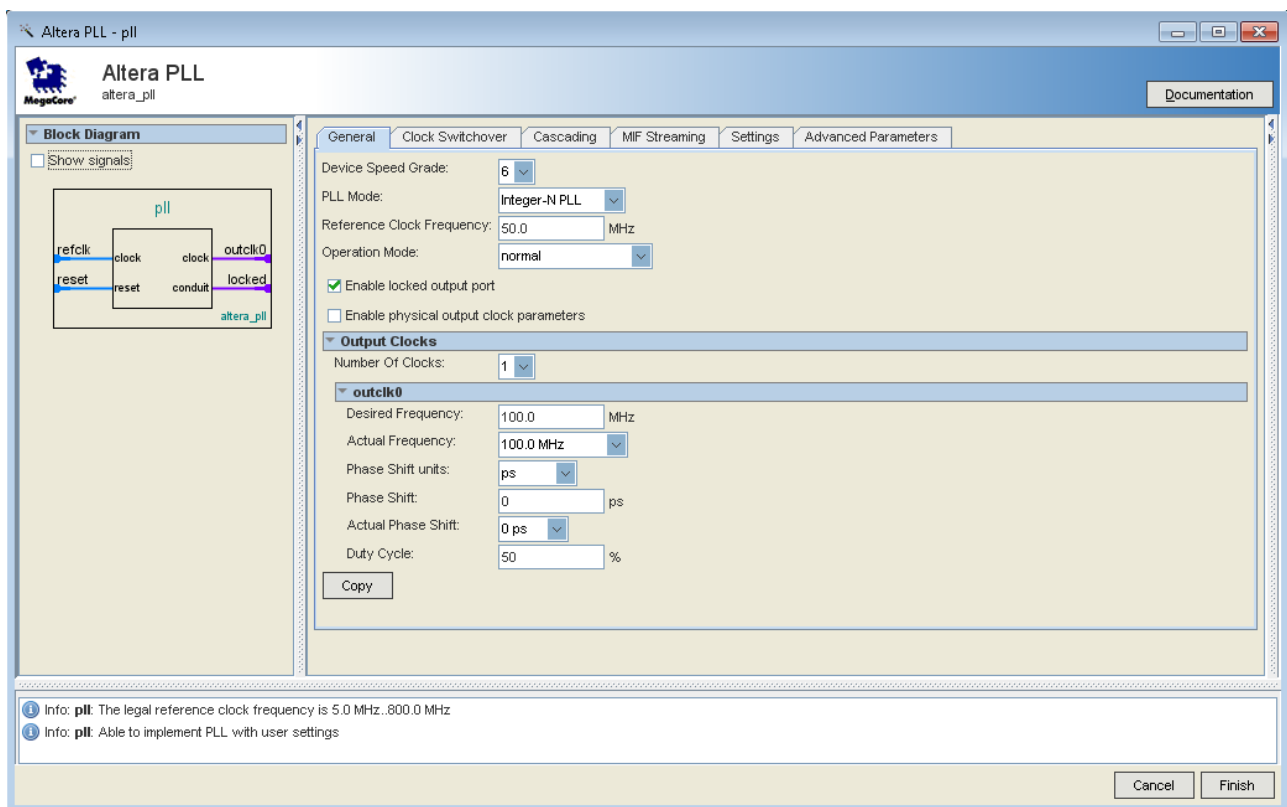

Figure 3-9 MegaWizard Plug-In Manager Selections
5. In the MegaCore Manager window, make the following selections (see **Figure 3-9**).